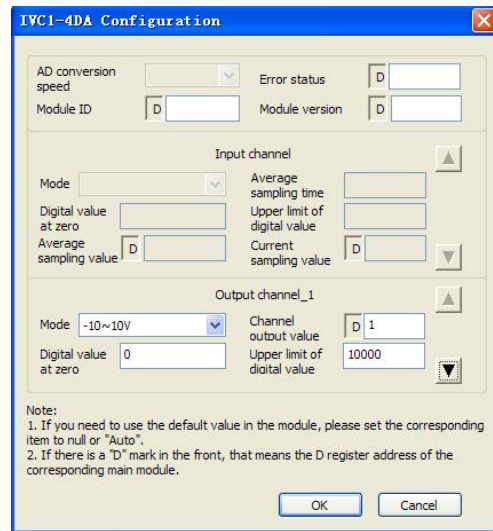

Figure 4-2 Changing CH1 characteristic
7. BFM#4094: module software version information, displayed automatically as **Module Version** in **IVC1-4DA Configuration** dialogue box of the host software, as shown in Figure 4-2.
The channel characteristic setting is shown in figures 4-2 ~ 4-4. For details, see IVC Series PLC Programming Manual.